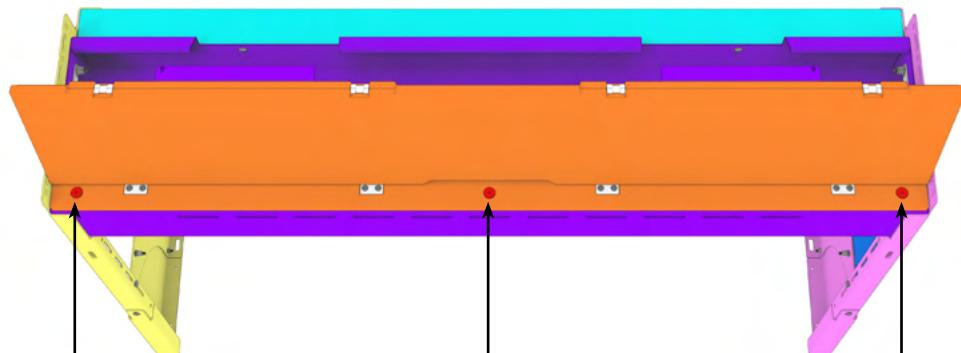

FIG 18
2.7 Attach Table Top to Top Tray: Attach the **Table Top** to the **Top Tray** using **(3) 3/8-16 x 1.25 Hex Drive Flat Head Screws, Flat Washers and Nylon Locknuts** in the locations shown in FIG 18.